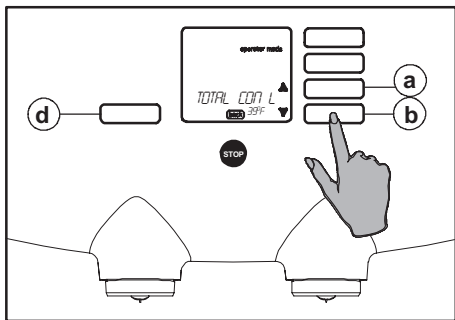
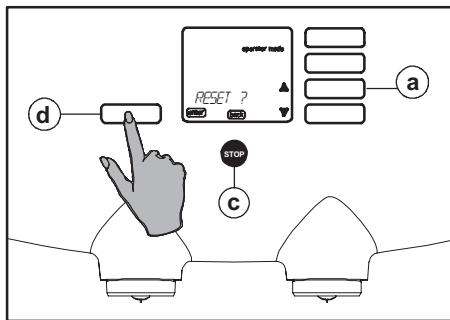

Fig. 32 Selection/reading out counter
Fig. 33 Resetting counter
3. Press the scroll button ▼ (fig. 32 b). The display shows the total counter for the left ingredient: "TOTAL CON L".
4. Press the scroll button ▼ (fig. 32 b) again. The display shows the total counter for the right ingredient: "TOTAL CON R".
5. Press the scroll button ▼ (fig. 32 b) again. The display shows the total counter for the water filter (optional!) "TOTAL FILTER".
6. Press the enter button (fig. 32 d) to reset the counter. The display shows: "RESET ?" (fig. 33).
7. Press the **stop button** (fig. 33 c) if the counter must **not** be reset.
8. Press the **enter button** (fig. 33 d) if the counter **must** be reset.
10. Press the enter button (fig. 33 d) to reset the counter of the concerning selection button.